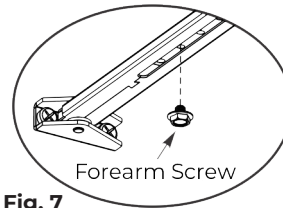

Fig. 7
3. Using a 7/16" wrench, loosen forearm screw in main arm rod and adjusting tube so that main arm can slide out of tube. (Fig. 7)